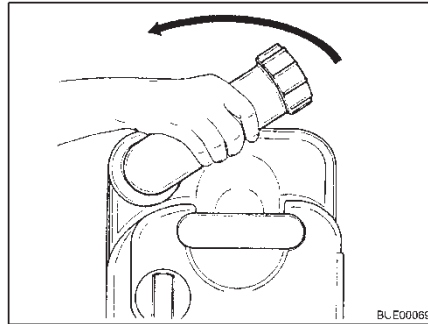

Fig. 176 Turning drainage neck
- Turn the drainage neck upwards (Fig. 176).